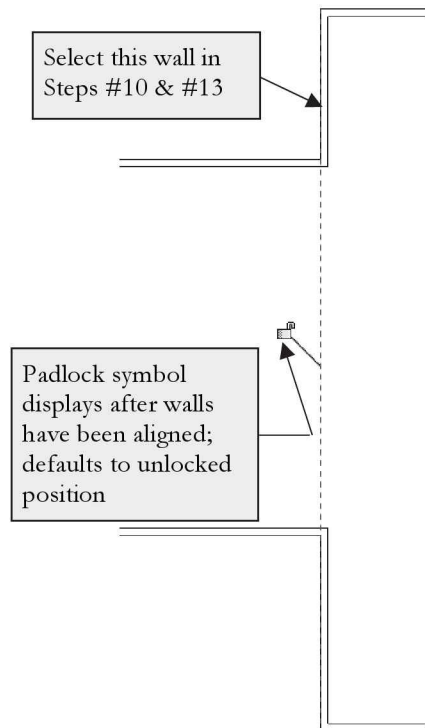

FIGURE 5-2.6
10. Now, select the exterior face of the north (top) vertical wall (see Figure 5-2.6).
11. Click on the **padlock** symbol (Figure 5-2.6).
13. Select the vertical wall identified in Figure 5-2.6.